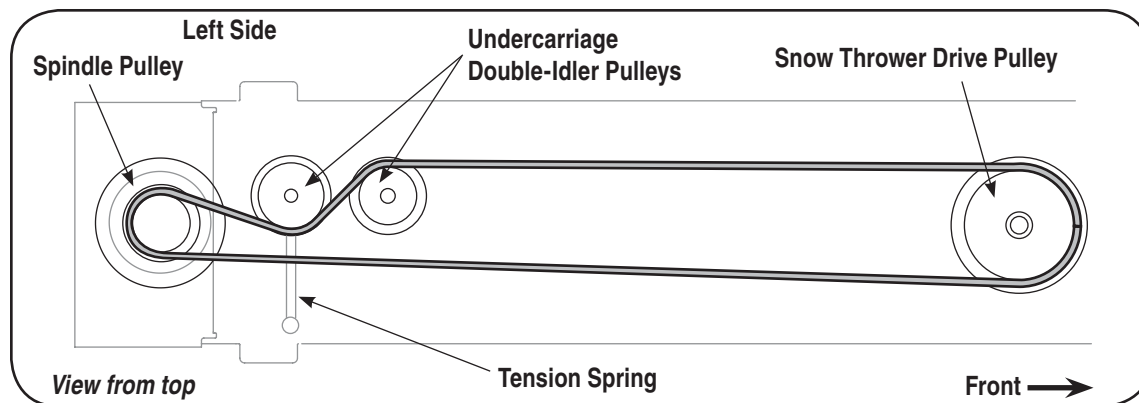

Figure 3-13
1. Route the lower drive belt around the lower pulley on the spindle assembly, both pulleys on the double-idler bracket found beneath the undercarriage, and the drive pulley found on the rear of the snow thrower housing as illustrated in Fig. 3-13.